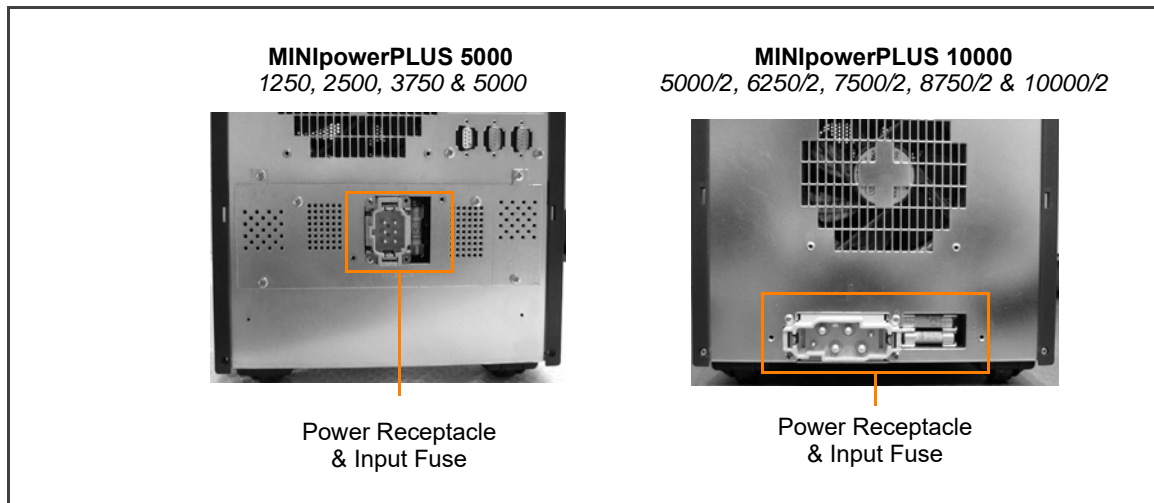

Figure 3.8 UPS input/output power receptacles
1. Connect the UPS input/output power connector assembly to the power receptacle on the rear of the UPS and secure in place using two screws, as shown in Figure 3.8.